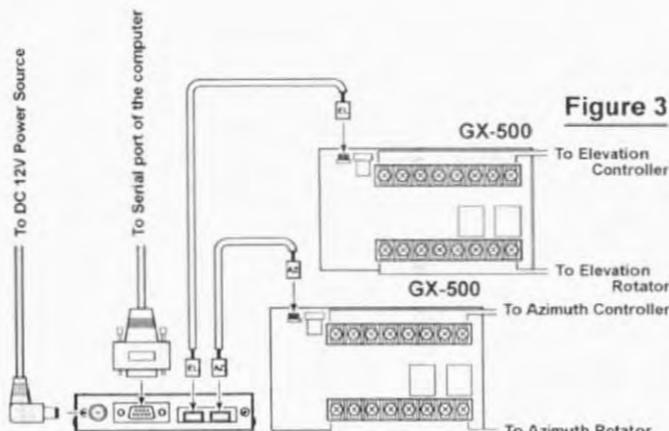

Figure 3
- Connect the 5-pin to 5-pin cable (supplied with the **GX-500**; requires two sets) between the **GX-500(s)** and **GS-232B** (Figure 3).